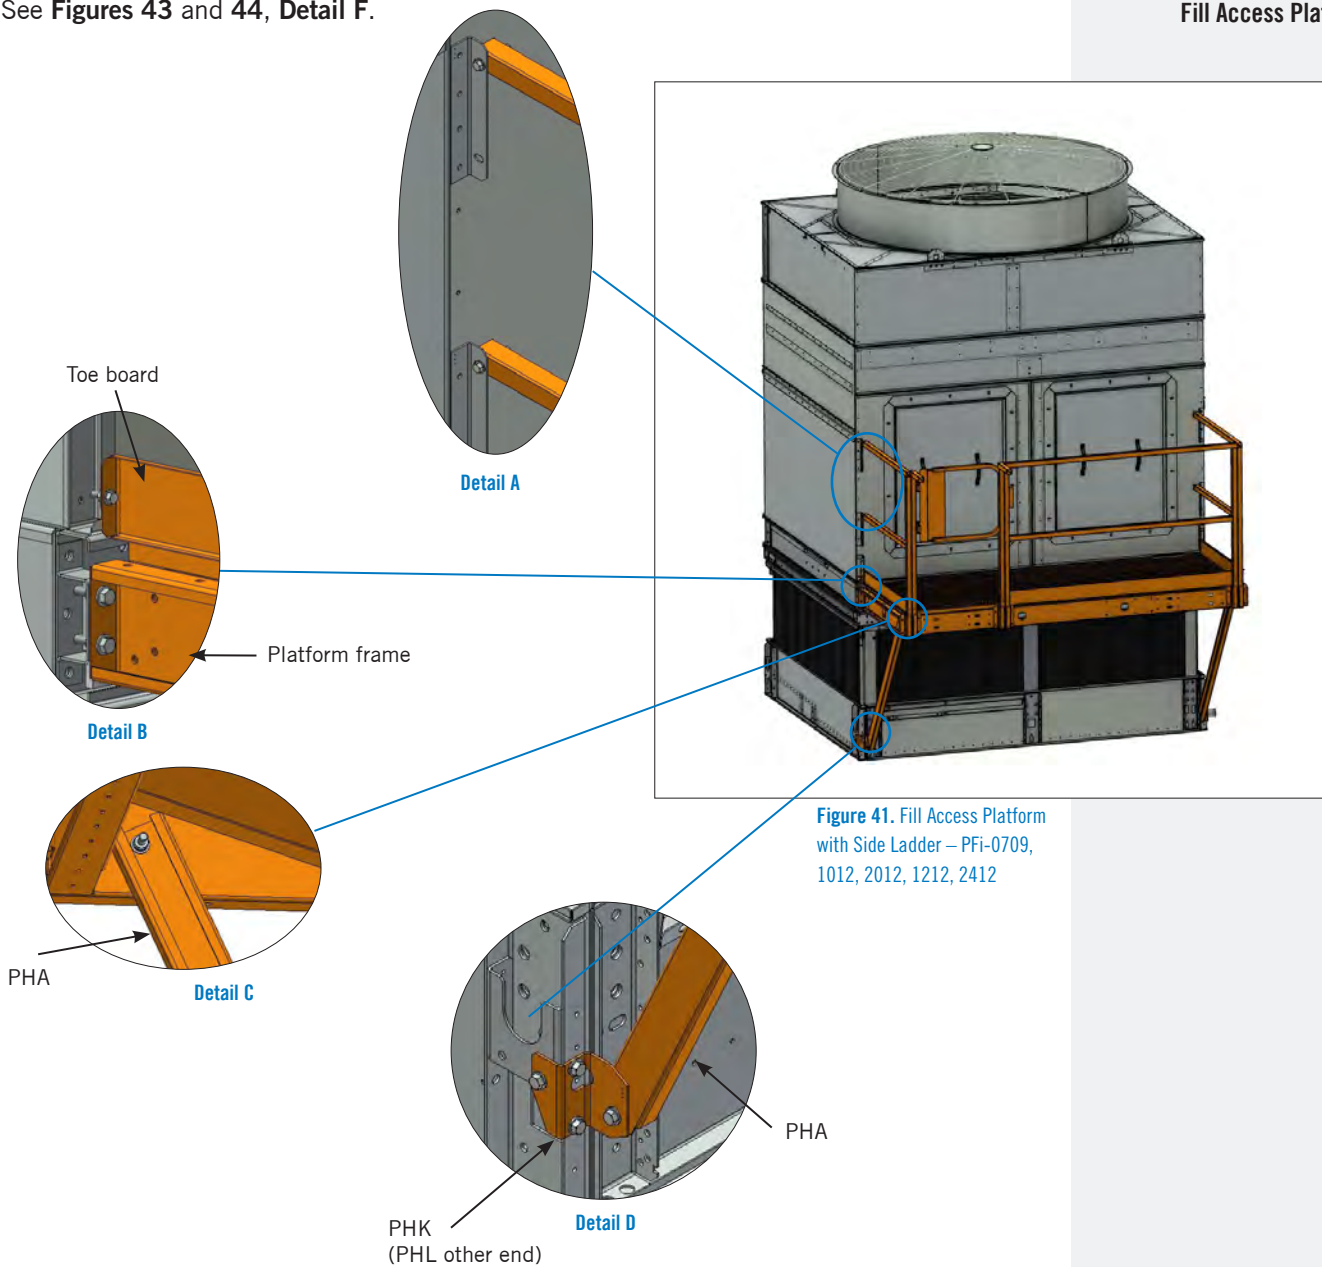
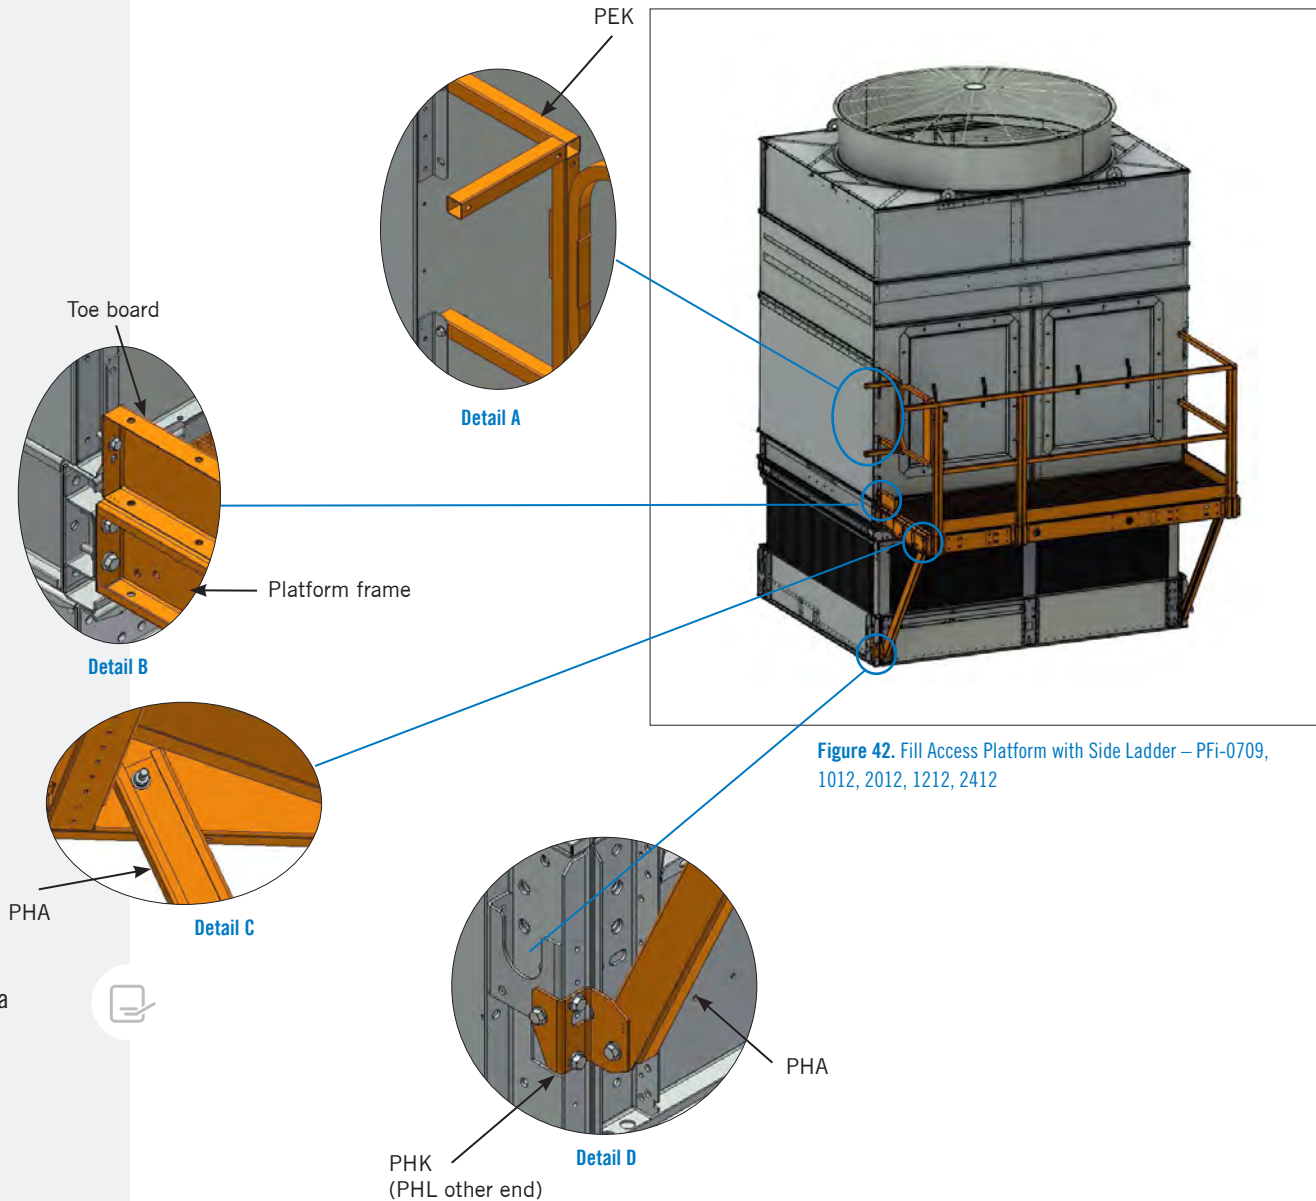

Figure 41. Fill Access Platform with Side Ladder – PFI-0709, 1012, 2012, 1212, 2412
Figure 42. Fill Access Platform with Side Ladder – PFI-0709, 1012, 2012, 1212, 2412
Refer to Figures 41 to 44 for your particular unit.
- Lift the platform module into place and secure the platform frame to the factory installed brackets on the casing frame. For 18' long units, use the 5/16" hardware provided to secure the platform frame to the center supports. See **Figures 43 and 44, Detail G**. For all units, use the 1/2" x 1 1/4" bolts provided to secure the platform frame to the end supports. See **Figures 41 to 44, Detail B**.
- Secure the support channels PHA to the platform frame using the 1/2" x 1 1/4" bolts provided. See **Figures 41 to 44, Detail C**.
- Secure the support channels PHA to the basin at the end locations using the adapter brackets PHK and PHL. See **Figures 41 to 44, Detail D**.
6. Secure the end toe boards to the factory installed brackets on the casing using the 3/8" bolts provided. See **Figures 41 to 44, Detail B.**
7. Secure the end rails to the factory installed brackets on the casing using the 3/8" x 2 1/2" bolts provided. See **Figures 41 and 43, Detail A.** For platforms with an end ladder, the end rail assembly PEK ships loose. Secure this rail assembly to the casing using the 3/8" x 2 1/2" bolts provided. See **Figures 42 and 44, Detail A.**